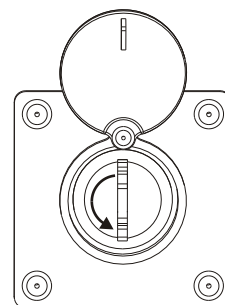

Fig.19
- Turn the key into clockwise direction until it's blocked. (Fig. 19).